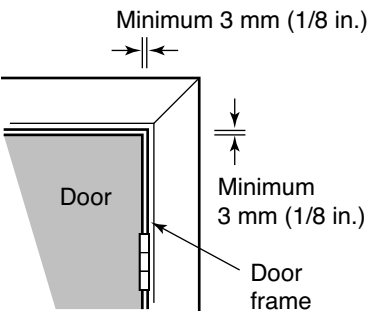

FIGURE 21
- ◆ Use pre-hung doors, or hang doors with at least a 3-mm (1/8-in.) clearance on tops and sides (see Figure 21). Secure top hinges with long screws to prevent sagging.